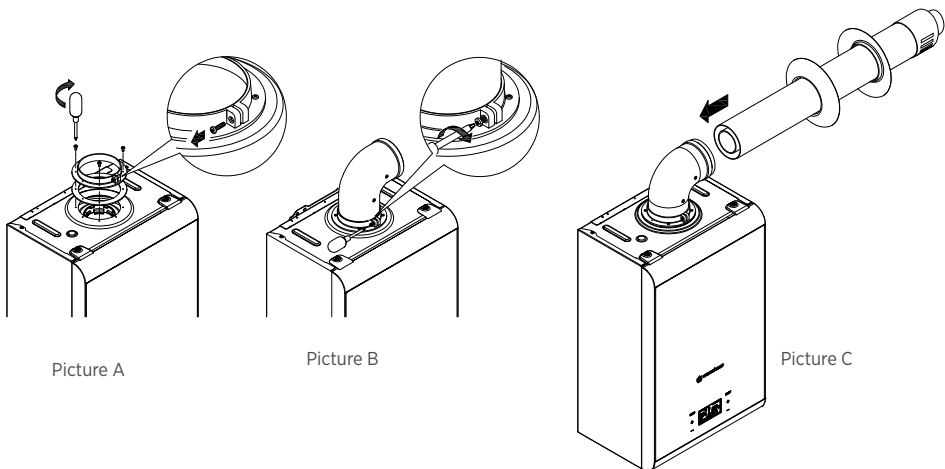

Figure 33 Hermetic combi boiler concentric flue set.
- Loosen the Flange Gasket Screw (Fig.33_6) and remove it from the elbow (Fig.33_1)
- Put the Neoprene Sealing Gasket (Fig.33_7) under the flange and secure it with 4 screws (Fig.33_6 and see Picture A)
- Place the flue elbow (90°) (Fig.33_1) press down and tighten the screw (Fig.33_6) to secure the flue elbow (see picture B)
- Fit the outer and inner wall flanges (Fig.33_13-14) on the terminal pipe (Fig.33_12)